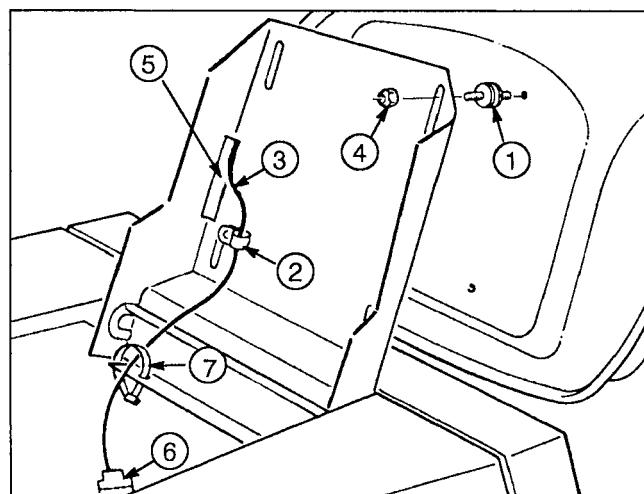

Figure 3
1. Thread (4) seat spacers into bottom of seat (Fig. 3).
2. Position seat onto seat base, inserting seat switch cable thru slot and spacer studs thru mounting holes (Fig. 3).
3. Slide wire clamp over seat switch wire (Fig. 3).
4. Using left front spacer stud, loosely secure wire clamp and seat to seat base with a locknut (Fig. 3).
5. Mount seat to seat base with (3) remaining lock-nuts.